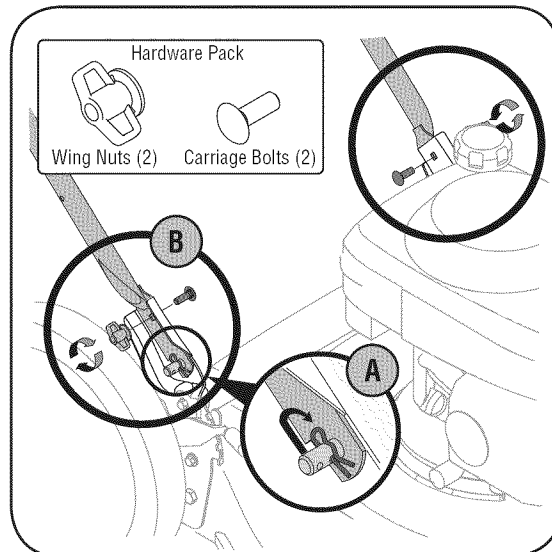

Figure 3-2: Secure handle to handle mounting brackets.
- a. Remove hairpin clip from this hole. Using a pair of pliers, insert hairpin clip into the hole on pin closest to the bracket, Figure 3-2. Repeat on other side.